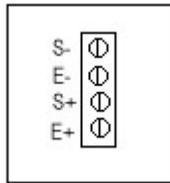

Figure 2-2: Connection assignments for the Load Cell Terminal
1. Connect your shielded load cell cable (not included) to terminal on the main board. Connection assignments for the Load Cell Terminal are shown in Figure 2-2.